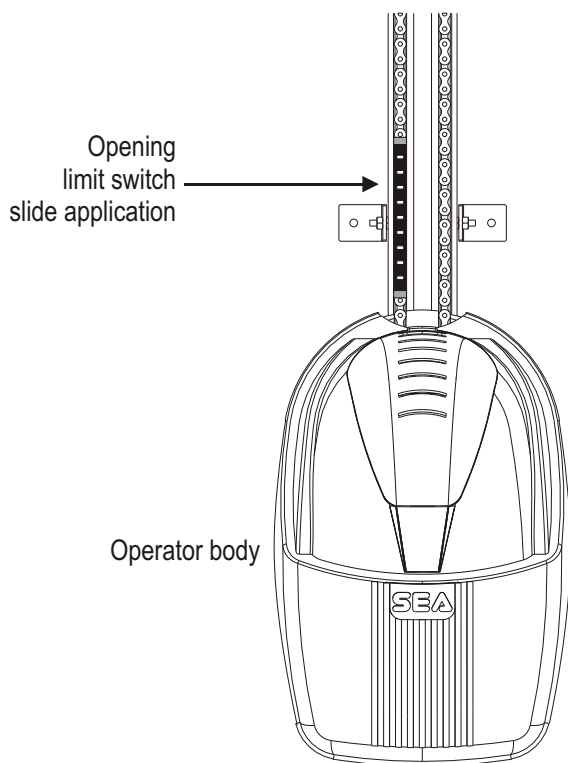

Fig. 21a
- fix the limit switch slide (Fig. 20) as near as possible to the operator body near the switch wheel as shown in Fig. 21a